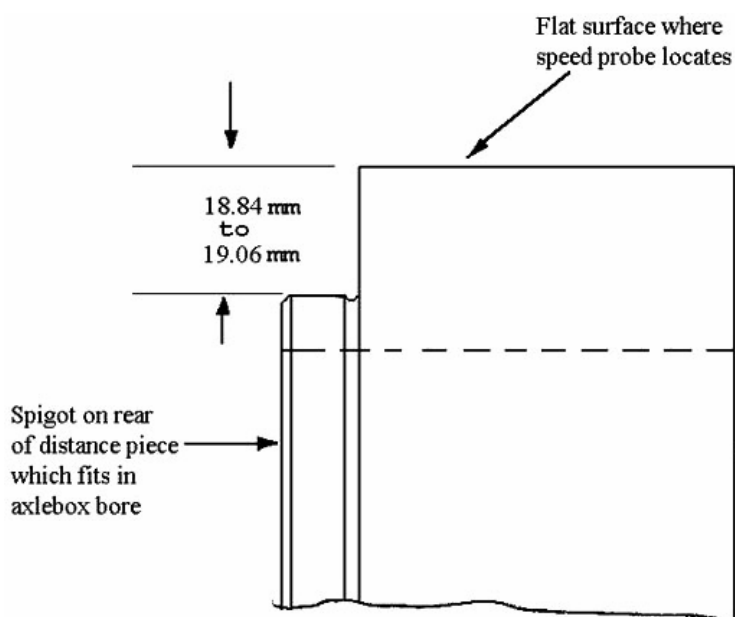

Figure 3: Dimensional Check on Revised Design for Westinghouse Equipment
8. On items to be used with Westinghouse probes, check that the distance between the flat surface for the probe and the top of the rear locating spigot, see Figure 3, is between 18.84 and 19.06mm.